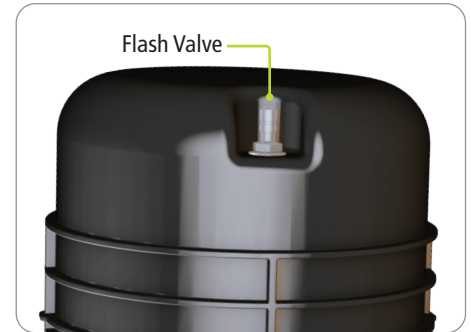

Figure 48
1. Apply 5 PSI of air to the flash valve on dome. (Figure 48)